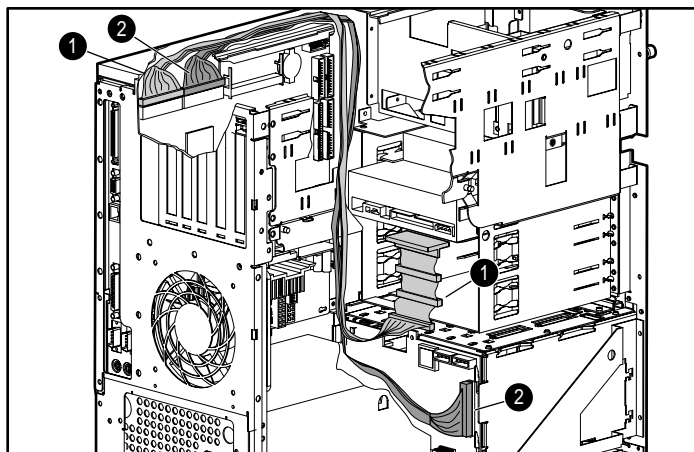

Figure 5-1. Default cabling configuration
The point-to-point SCSI cable ❷ shown in Figure 5-1 connects to a hot-plug SCSI hard drive from the drive cage to SCSI port 2. The point-to-point SCSI cable is bi-directional so that either end can be connected to SCSI port 2.